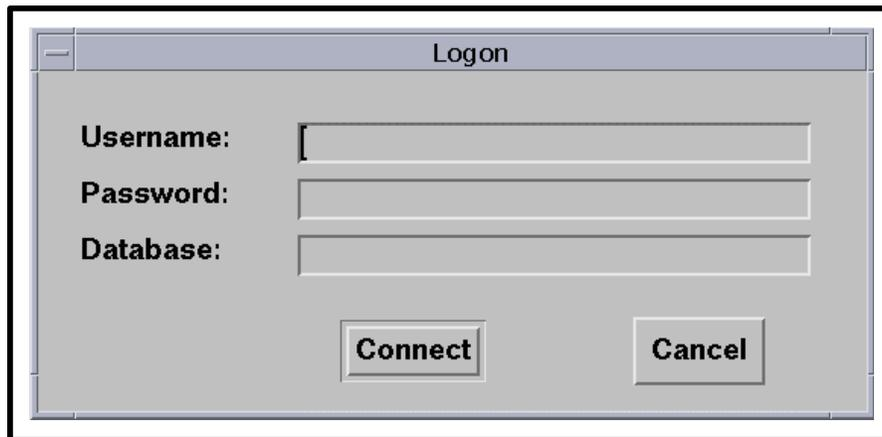

Figure 31. PDS Maintenance Module Login Screen
- The **PDS Maintenance Module Login Screen** (Figure 31) is displayed.
- **Cancel** - to dismiss the PDS **Maintenance Module Login Screen** (Figure 31) without logging in to the PDS Maintenance Module.